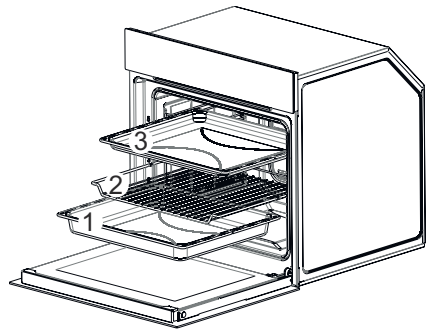

Fig. 13
- Remove the trays and the grill respectively (1-2-3 / Fig. 13).